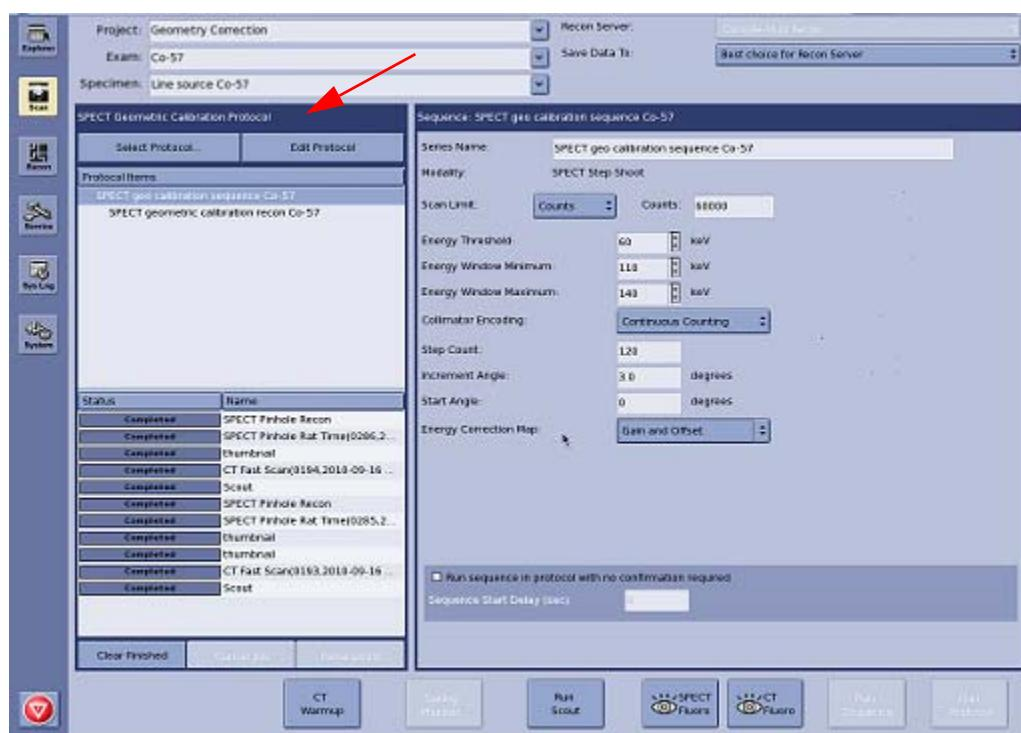

Figure 7-31
- 4.) Press the Scan  button. Press the Select Protocol button (Figure 7-31). Select the
- 5.) For Co-57, set the energy threshold to 60 KeV, the energy window to 110-140 KeV, the Step Count to 120, the Increment Angle to 3.0 degrees, and the energy correction map to "gain and offset", as shown in Figure 7-31.